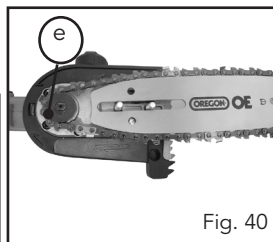

Fig. 40
2. Place the guide bar with chain onto the pole pruner, ensuring the chain is fitted around the sprocket (e) (Fig. 40).